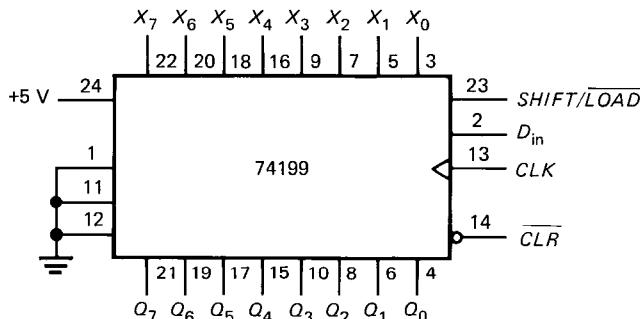

Fig. 8-30
- 8-4. A 74199 is an 8-bit shift-left register with a single control signal, as shown in Fig. 8-30. When $SHIFT/LOAD$ is low, the circuit loads the X word on the next positive clock edge. When $SHIFT/LOAD$ is high, the register shifts the bits to the left.
8-5. The clock frequency is 2 MHz . How long will it take to serially load the shift register of Fig. 8-30?
8-6. In Fig. 8-30, $Q = 0001\ 0110$. If $SHIFT/LOAD$ is high and D_{in} is high, what does Q equal after three clock pulses?